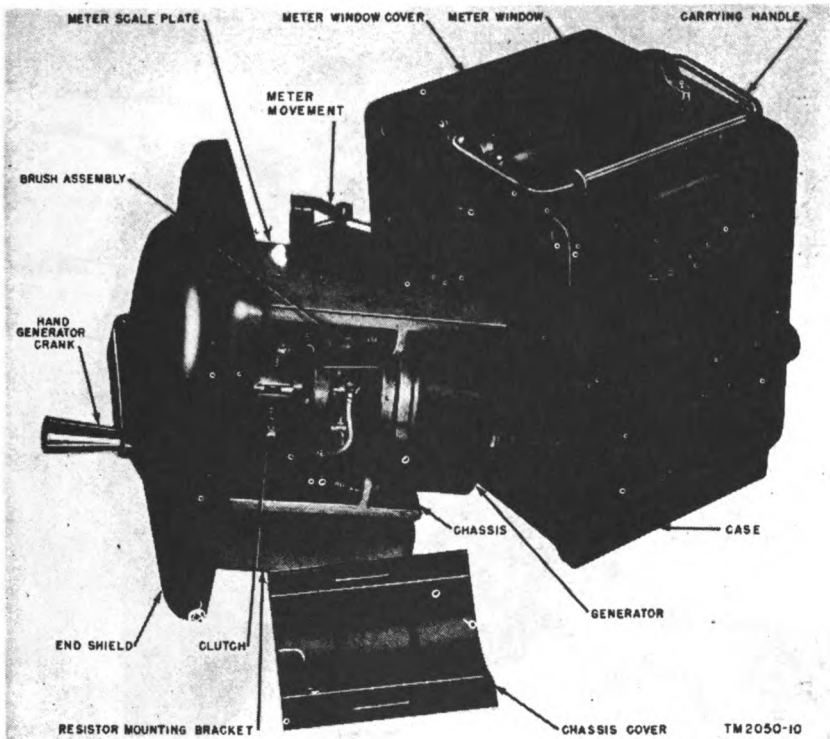

Figure 4. Test set I-48-B with end shield and chassis removed from case.
- (5) The shield in Ohmmeter ZM-21A/U consists of a plate and a brass tube instead of the open shielded wire use in Test Set I-48-B.
- (6) The construction of the resistor mounting bracket has been changed (figs. 4 and 6).
- (7) The test leads supplied with Ohmmeter ZM-21A/U are Cords CD-478, each 6 feet long, instead of the 10-foot long rubber-covered test leads supplied with Test Set I-48-B.